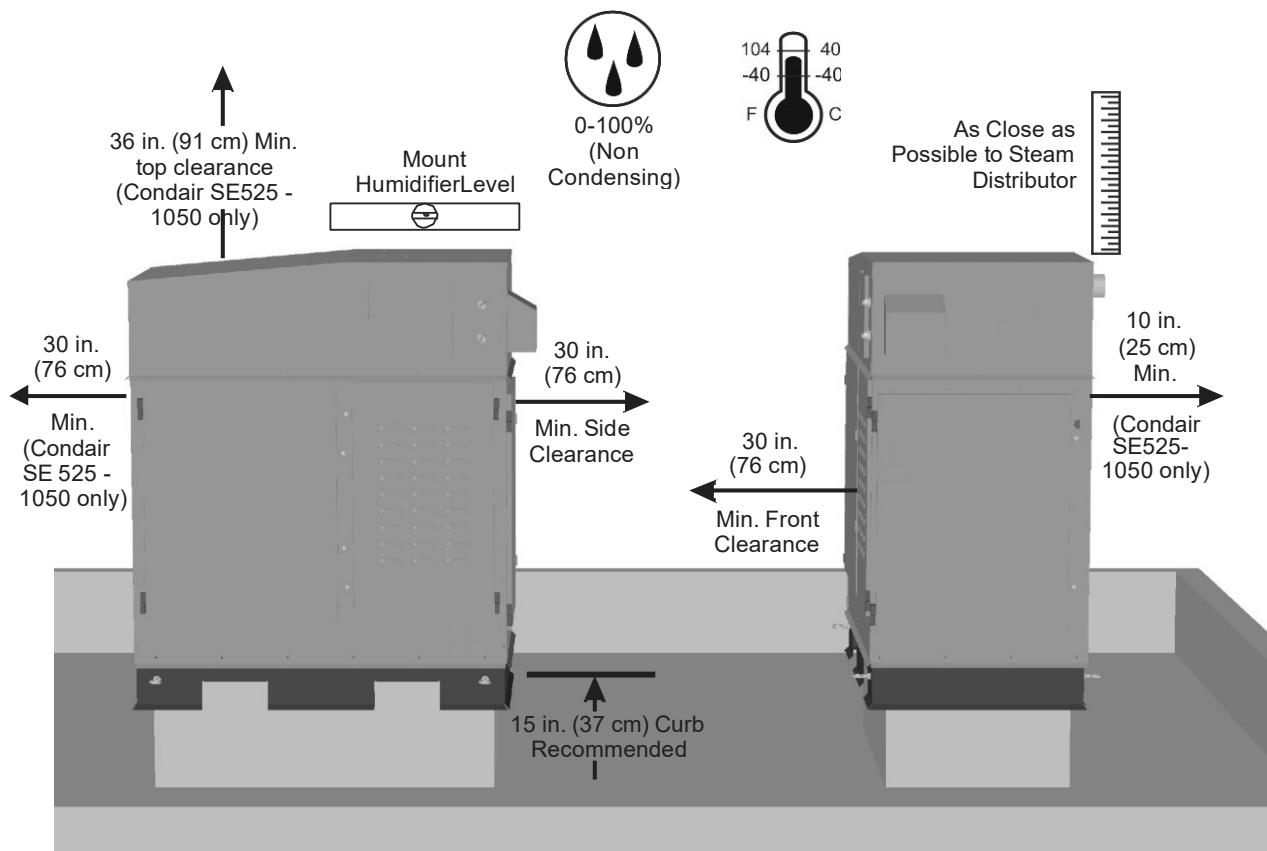

Figure 5: Installation Location / Clearance
- Refer to Figure 5: Installation Location / Clearance for minimum clearance requirements and to Table 3: Condair SETC Outdoor Specifications for minimum structural requirements. Ensure mounting surface is strong enough to support the full weight of the humidifier and accessories.